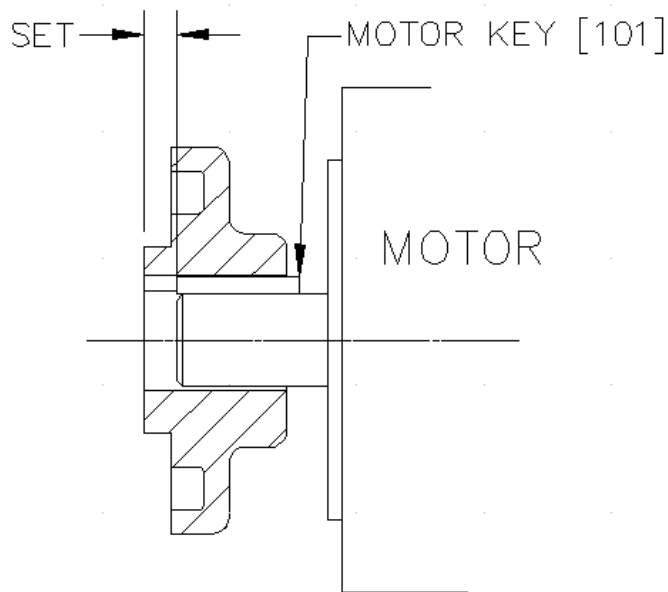

Figure 7. Motor Coupling Setting
3. If using a Sure-Flex[®] coupling, measure and mark the setting distance on the motor shaft as per Table 5 or Table 6. Install the flexible coupling hub with motor key [101] on the motor shaft as per the marking (See Figure 7). Tighten the hub setscrews to the torque value shown in the APPENDIX, Page 96. Turn the motor shaft by hand to check that the shaft rotates freely.